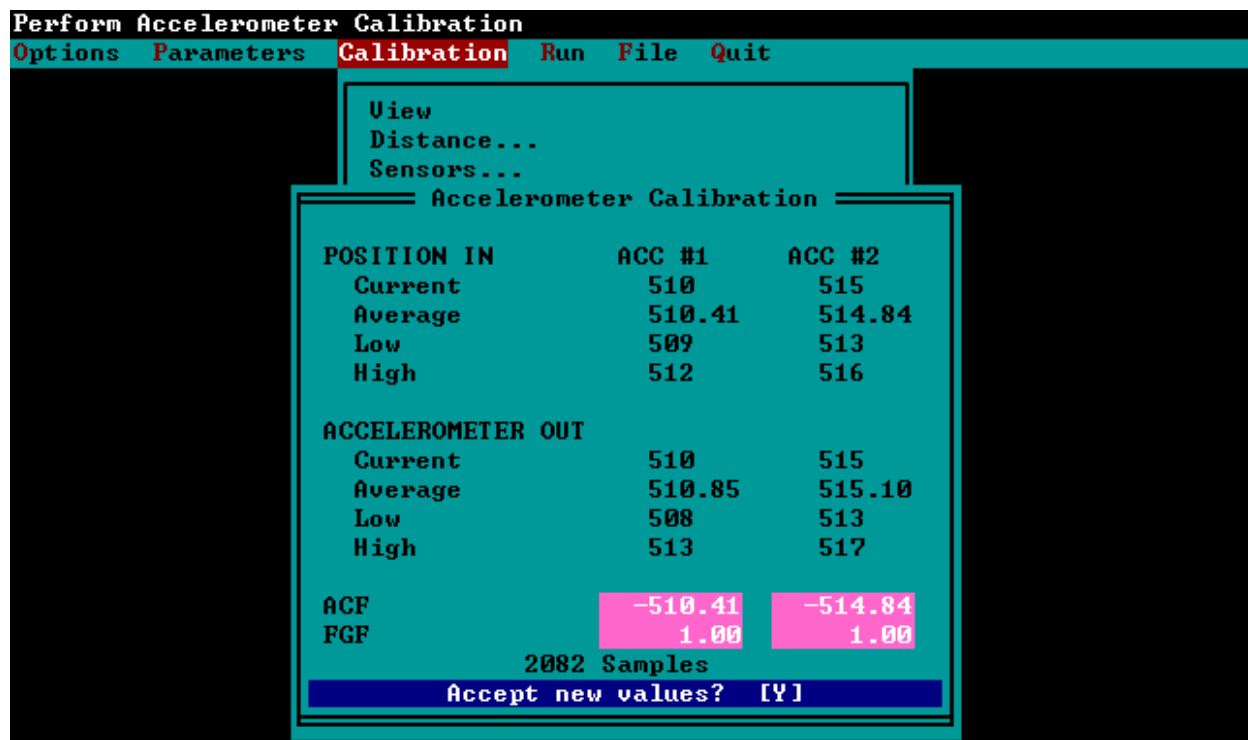

Figure 4-3. MDR Software Accelerometer Calibration Screen for Accelerometer Check.
3. In the Accelerometer Calibration Menu, highlight 'Go' and press 'Enter' key. The monitor will display an Accelerometer Calibration Screen similar to that shown in Figure 4-3.